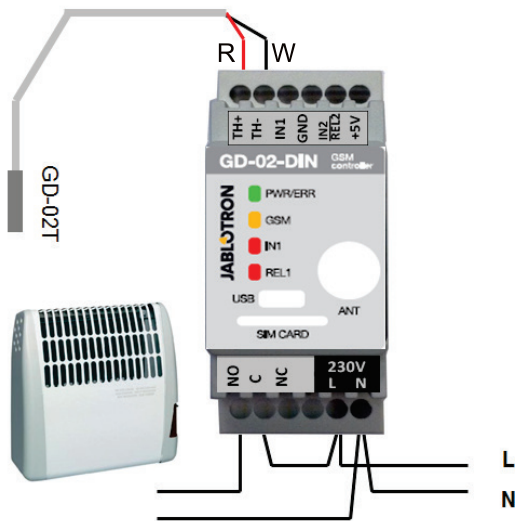

Figure 5: Measuring the temperature and electric heater control.
- A controlled device has to be connected via the REL1 (see Figure 5) power output contacts in this mode.